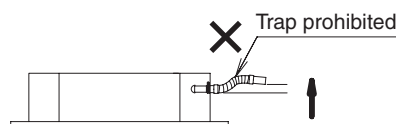

Fig. 2-38
- Do not make a trap in the middle of the supplied drain hose. Doing so will cause abnormal sound. (Fig. 2-38)